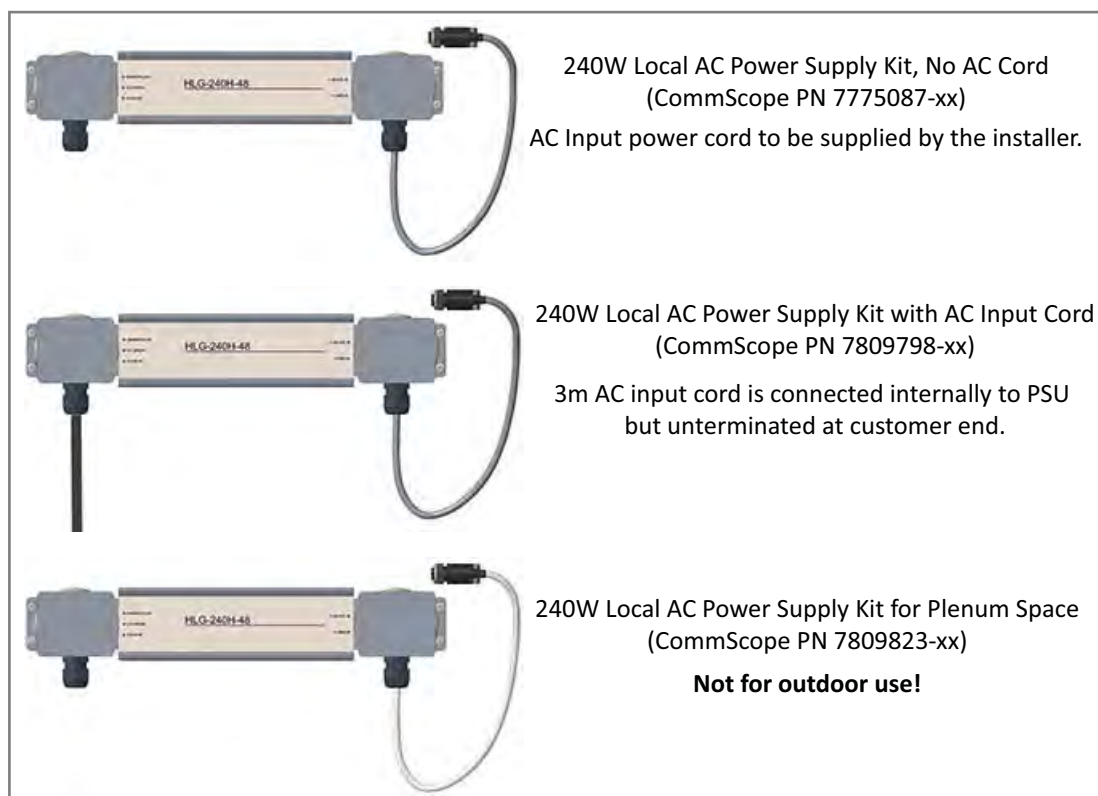

Figure 14. CommScope Local AC/DC Power Supply Kits
- 1 Obtain the AC/DC Power Supply Kit that is appropriate for this installation. Figure 14 on page 39 lists the three AC/DC Power Supply Kit part numbers; see also "CommScope Part Numbers" on page 3.